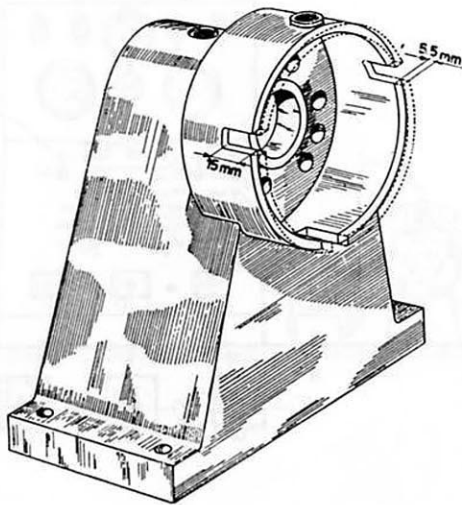

Fig. 75. Modified stator support.
**Retailers who have the old test stand shall carry out on the stator support the modifications indicated on Fig. 75 in order to use it for testing flywheel magnetos of Vespa 150 (VBA).**